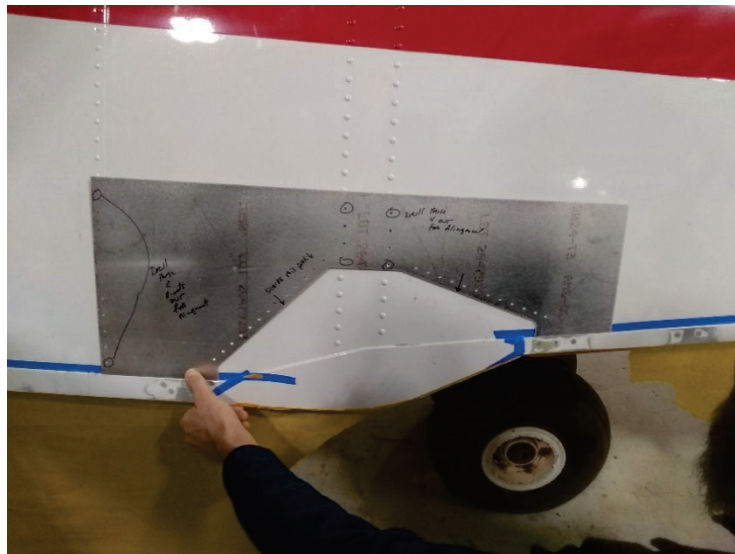

Figure 3
3. Set repair template part number 1009994 against float skin above the doubler near the main landing gear. Align vertical rivet holes with existing vertical rivets on float (see Figure 3). Template should be above chine line.